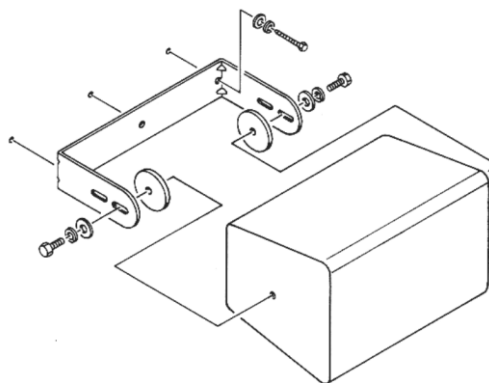

Figure 1
**Step 3.** Place the speaker between the U-Bracket's arms. Insert a hex bolt, flat washer and lock washer (must match the speaker's thread) through the desired slot in one of the arms with the sound isolation gasket, (select either a 1/8", 1/4" thick or both per end), threading the bolt into the loudspeaker. Repeat on the other side of the speaker. (See figure 1) Do not fully tighten yet.